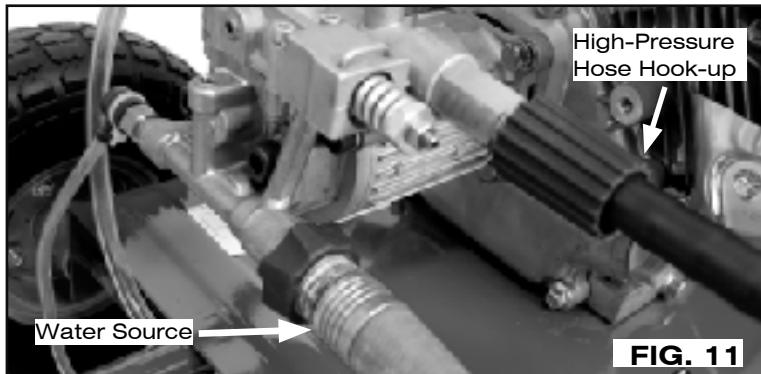

FIG. 11
5. Connect water source to pump inlet. **NOTE:** Water source must provide a minimum of 5 gallons per minute at 20 PSI. (Fig. 11)